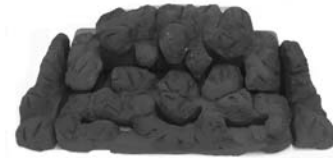

Fig 4c
Step 3 Becton 7 only. Locate 2 off end coals each side of the base matrix. (See underside of coals for hand identification) (Fig 4c).